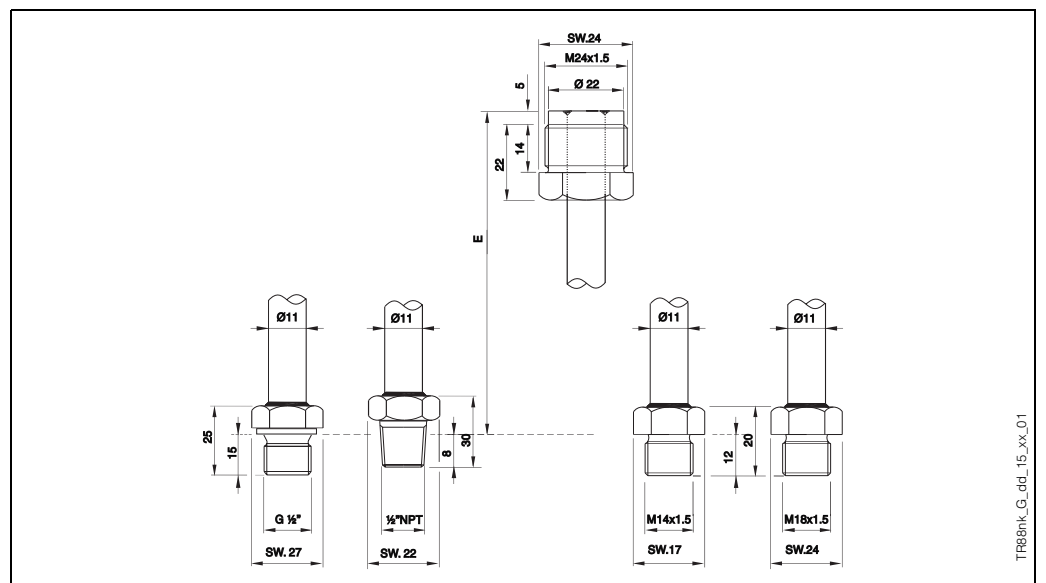

Fig. 6: Extension neck in different versions
It is constituted by an 11 mm tube in SS 316L/1.4404 (fig. 6), whose standard length (E) can be chosen among the following values:
Figure 6 shows the basic dimensions of the threaded connections available from the sales structure (see paragraph "Ordering information" at the end of this document).